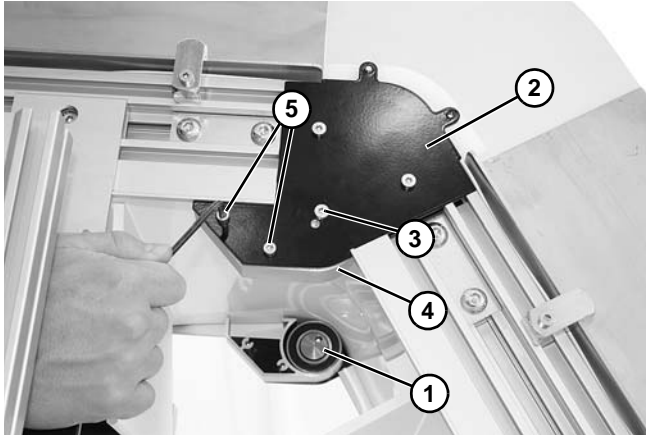

Figure 61
5. If equipped, install return roller bearing (**Figure 61, item 1**) into knuckle plate (**Figure 61, item 2**) using screws (**Figure 61, item 3**) on both sides of conveyor.
6. Install knuckle guard (**Figure 61, item 4**) on both sides of conveyor with screws (**Figure 61, item 5**). Tighten screws to 25 in-lb (3 Nm).